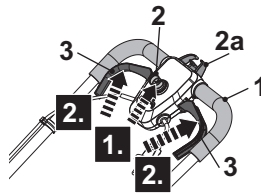

Fig. 15
1. Stand behind the grip handle (1).
2. While holding the safety switch button (2) pressed (Fig. 15, step 1), pull the start levers (3) towards the grip handle (1) (Fig. 15, step 2).
3. After the mower starts, release the safety switch button (2).
5. Release the start levers (3) to stop the mower.